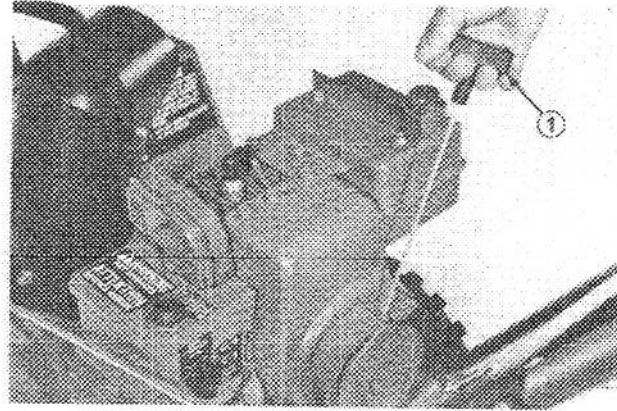

Figure 19
Recoil Starter (Fig. 19) — Recoil starter is on back side of engine. Pull recoil starter to start engine.
6. Grasp recoil starter handle (Fig. 19) and pull it out slowly until positive engagement results; then pull vigorously to start the engine. Keep firm grip on starter handle and return the rope slowly.